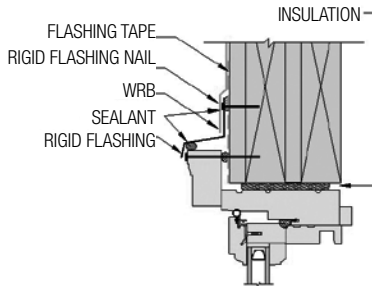

FIG. 14: HEAD JAMB
- A) Apply sealant: Apply a horizontal bead of sealant between the top edge of the rigid metal flashing and flashing tape and between the rigid metal flashing and the top of the brickmould. (Fig. 14)
- B) Apply the rigid metal flashing. The flashing should extend approximately 1/8" past the edge of the brickmould on each side. Nail the flashing to the rough opening using at least a 1" roofing nail every 8"-10" at approximately 1/2" below the top of the rigid flashing. Ensure that the nail is compatible with the rigid flashing material to prevent corrosion. (Fig. 14 & 15)
- C) Overlap the WRB over the rigid metal flashing. Trim the excess WRB at the rigid flashing bend that is directly below the rigid flashing nail. (Fig. 14 & 15)